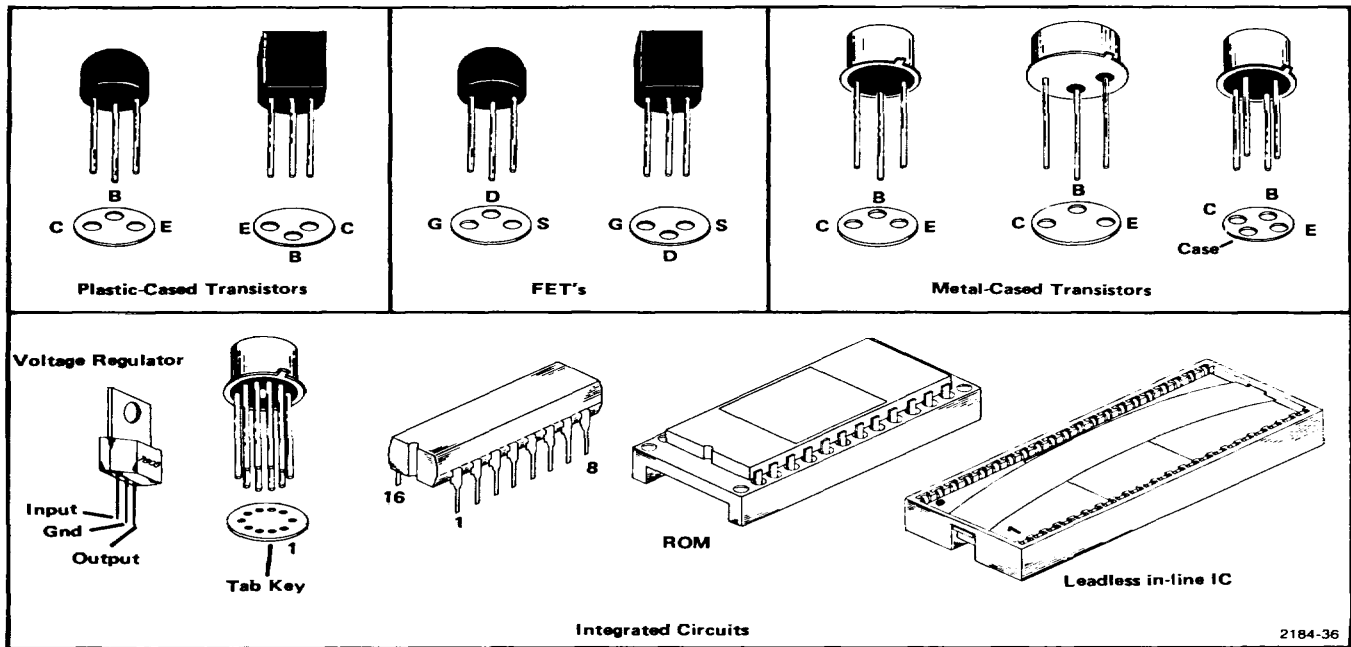

Fig. 5-4. Electrode configuration for semiconductor components.
Transistor and Integrated Circuit Electrode Configuration. Lead identification for the transistors is shown in Fig. 5-4. IC pin-out diagrams are shown, when necessary, on the back of the adjoining pullout schematic diagram.
d. --- Be sure the component (transistor or IC) is inserted properly in the socket (see Fig. 5-4 or the manufacture data sheet).
Replacement semiconductors should be of the correct type or a direct replacement. Fig. 5-4 shows the configuration of the semiconductors used in this instrument.